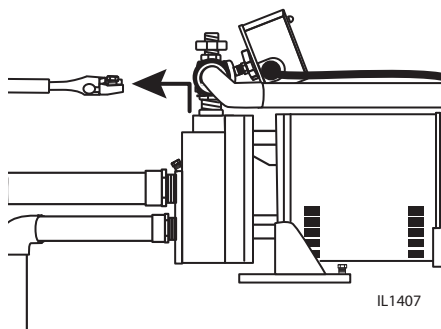

Figure 31 - Remove priming plug
1. Remove the 1/2" priming plug. (Fig. 31)